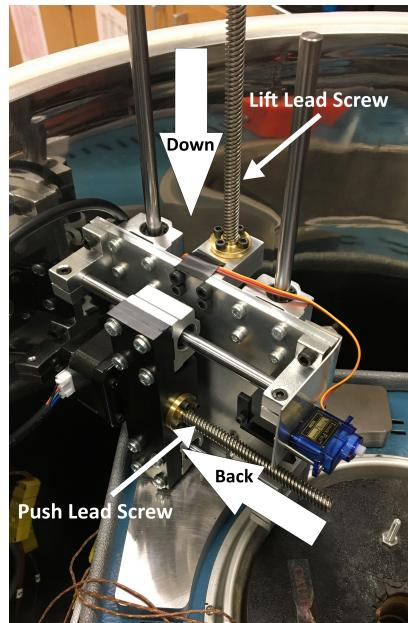

Figure 14: The shutdown position for the ARIA
11. Twist both of the ARIA lead screws by hand such that the mounting plate is all the way down and touching the base plate and the push block all the way back and is touching the horizontal stepper motor. (This is the shutdown position. See Figure 14)